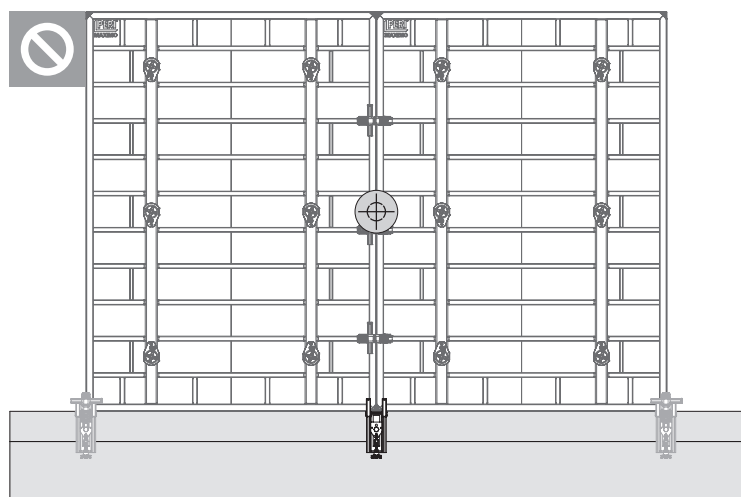

Fig. A2.11
- The joint of two formwork elements must not cover one wall formwork bracket. (Fig. A2.11)